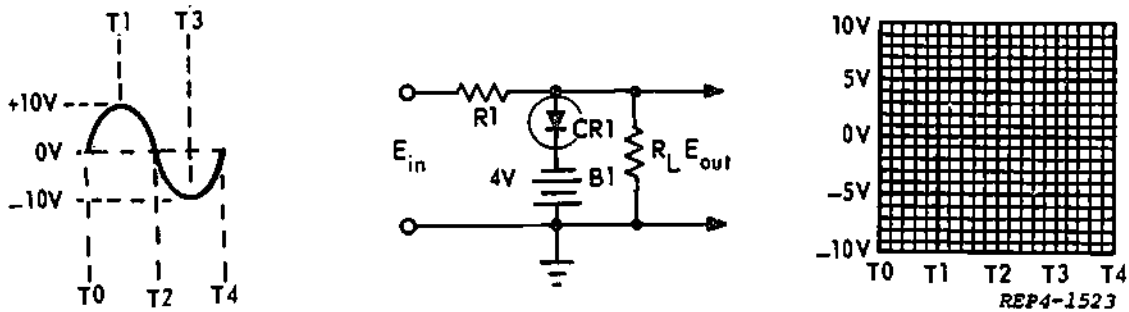

Figure 50-8
4. Given the circuit diagram and input signal shown in figure 50-8, draw the output signal on the graph.